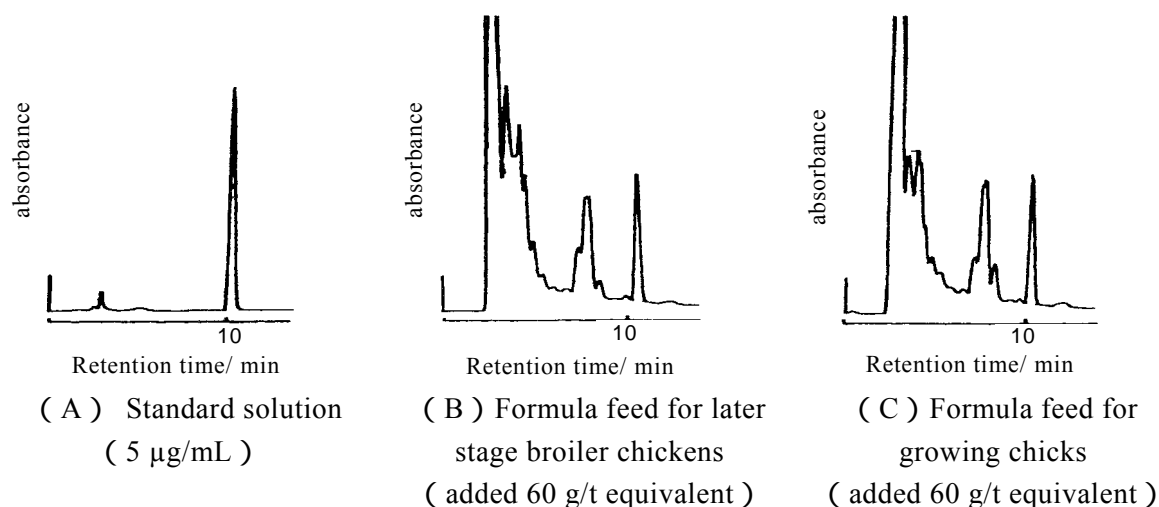

Fig. 8.1.10-4 A chromatogram of sulfaquinoxaline in a formula feed
- [3] An example of chromatogram of sulfaquinoxaline is shown in Fig. 8.1.10-4.